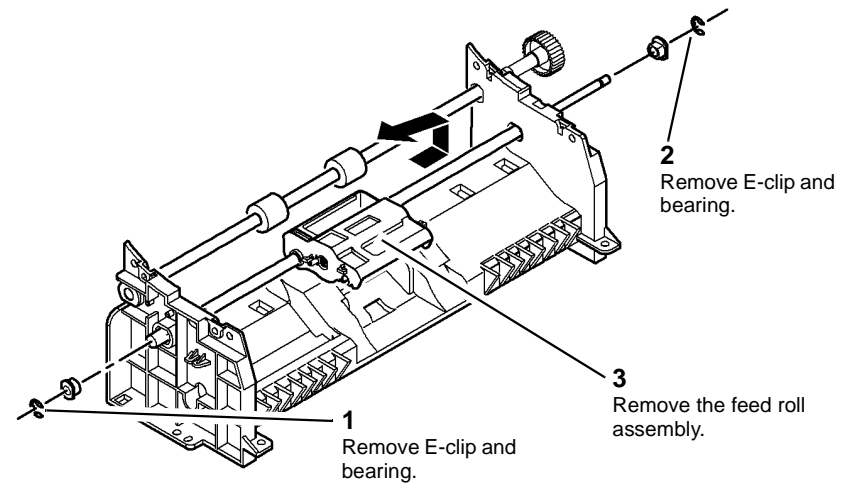

Figure 3 Feed Roll Removal
5. Remove the feed roll assembly, Figure 3.